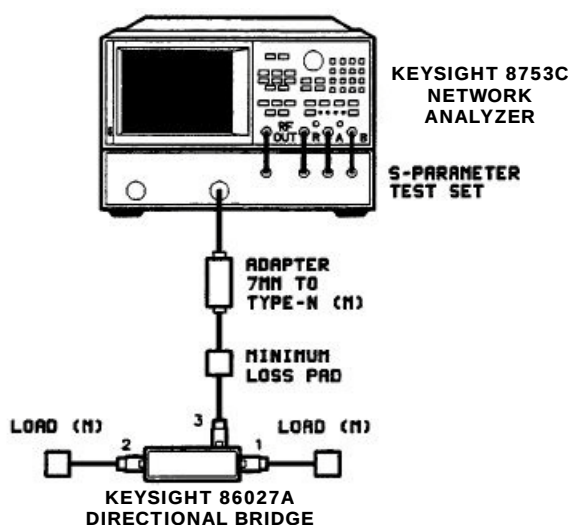

Figure 3-6 Equipment setup for return loss measurement on port 3
- 15** Connect the equipment as shown in Figure 3-6 and repeat steps 11 through 14 to find the return loss on port 3.